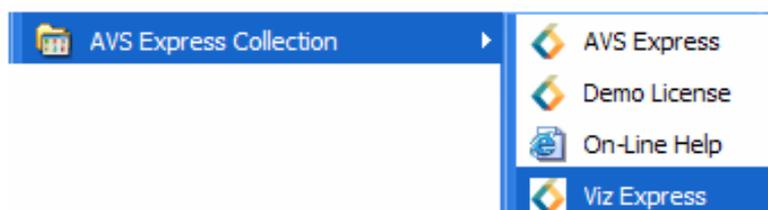

Figure 2.1: Start Menu
- To start AVS/Express Visualization Edition, select AVS Express Collection folder from the Start menu and load the Viz Express application as shown in Figure 2.1.